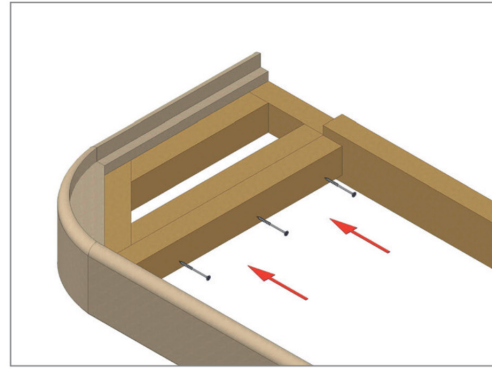

Figure 2
2. Use 5x80 mm screws to connect the frames of the end module and the following bench modules. (Figure 2)